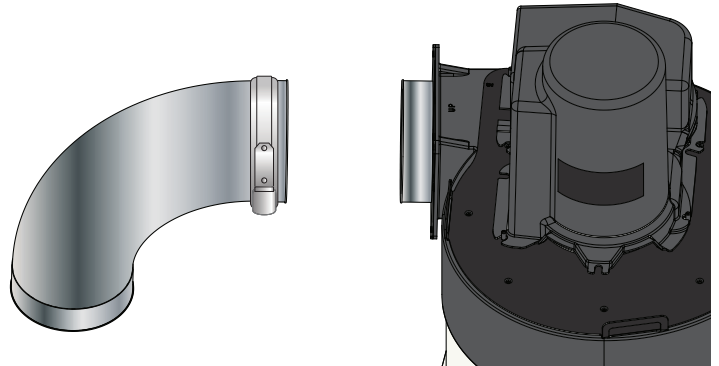

FIG. 8a
Open an 8" Duct Clamp (Q2) and slip it over the 8" Plenum Elbow (J) [FIG. 8a]. Mate the Elbow to the 8" Outlet Adapter (I) and close the Clamp over the rolled ends. [FIG. 8b] Lock the Clamp in place using the provided cotter pin [FIG. 8c].